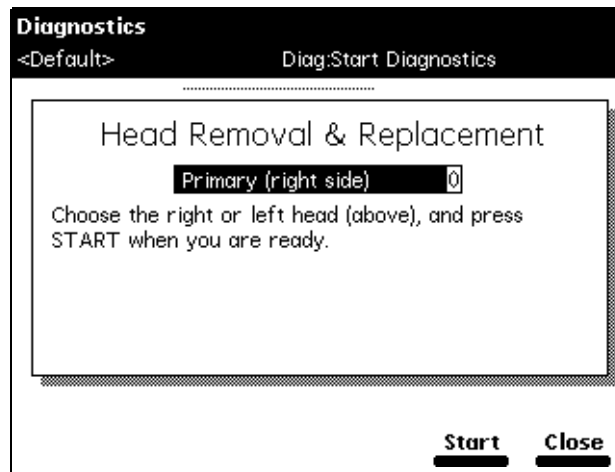

Figure 8-14 Head Removal and Replacement Screen
1. Select **Head removal & replacement** in the Other Diagnostics screen, then press the **OK** screen key. The Head Removal & Replacement screen appears (Figure 8-14).